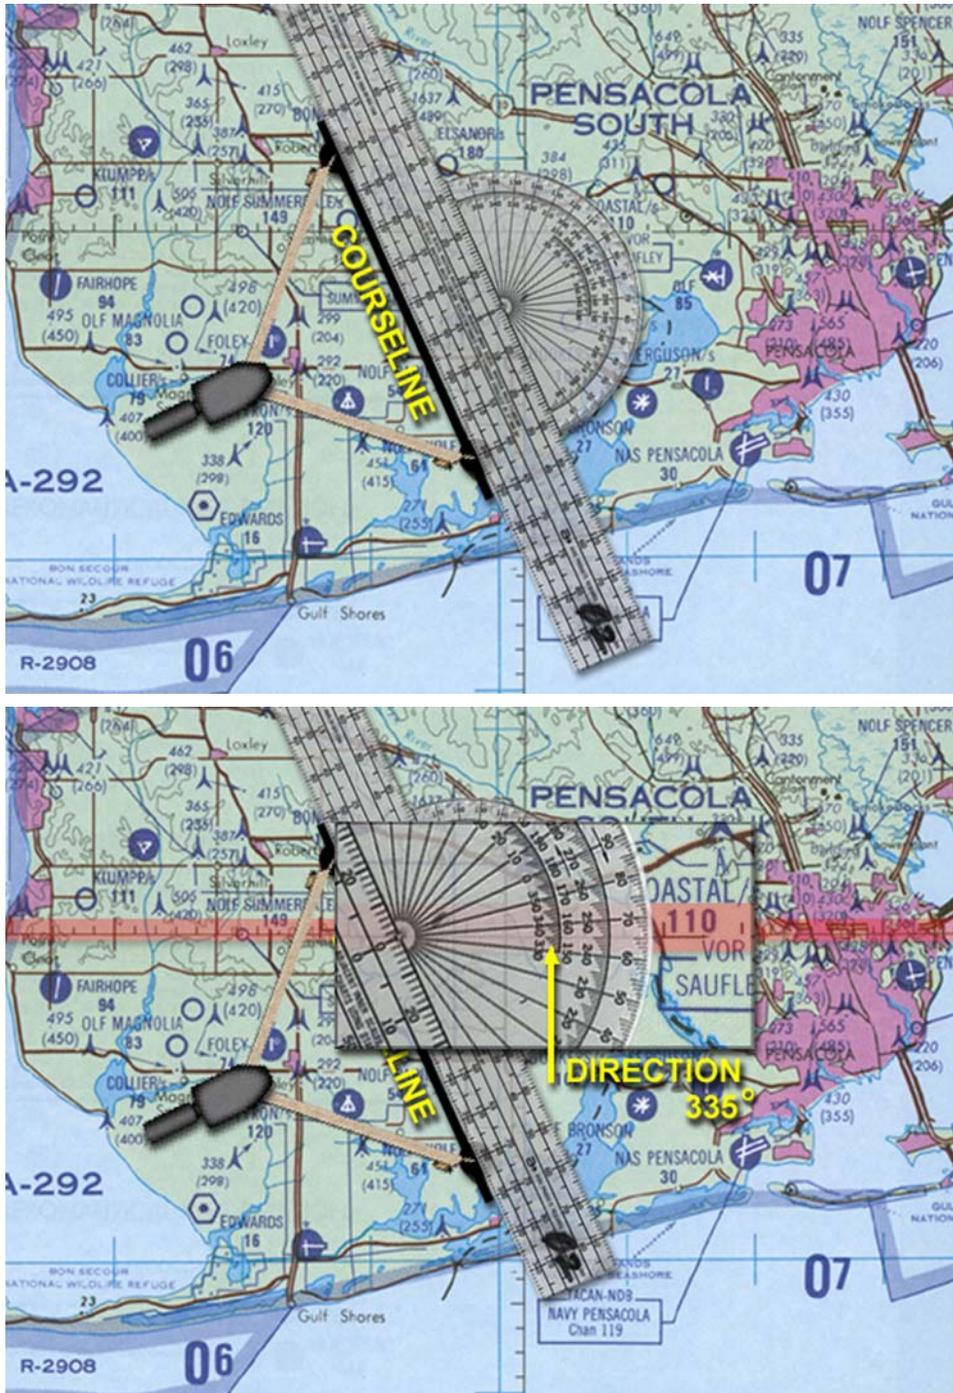

Figure 4.2-19 North/South Course Measurement
The procedures are the same in that the plotter's straight edge is kept on the course line, but now a parallel is placed under the plotter's grommet. Then, follow that parallel out to the inner north/south scale to read the answer (Figure 4.2-19). Again, there is a choice of two answers, so it is imperative to estimate the general course direction before beginning.
4. When placing a meridian under the grommet, read the course from the outer scales. (Figure 4.2-19)